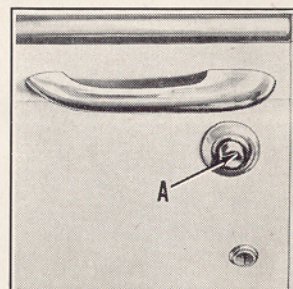
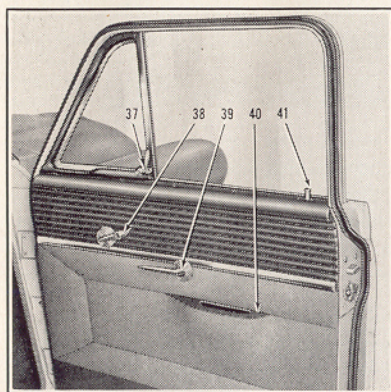

Figure 2
Figure 3
**TO LOCK CAR**—Close windows, push inside safety buttons (41, Figure 3) down on all doors except the front door from which you are leaving. Close the front door, insert key in lock and turn key one-quarter turn to the right until safety button is down to locked position. Turn key back to the vertical position and remove key. Push in on button (A, Figure 2) to insure that door is locked. Rear doors may also be locked by pressing down buttons while doors are open and then closing doors.
**TO OPEN DOOR FROM INSIDE**—Front Door:—Rotate inside handle (39) by pushing it downward. Rear Door:—Rotate inside handle by pulling it backward.
**TO CLOSE DOOR FROM INSIDE**—Grasp pull-to handle and arm rest (40) and pull door shut.
**NOTE:** On the rear doors, the inside safety buttons (41) must be in the "UP" position before the doors can be opened by either the inside or outside handles.
The door windows are opened and closed by cranking the regulator handles (38, Figure 3).